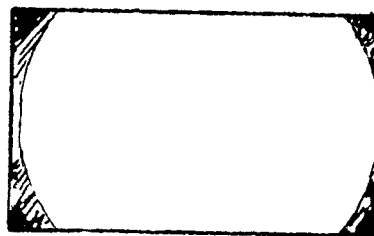

Fig 6
- 2) Close the dowser and install the projector lens and aperture plate. It is preferable to use the wide screen ("flat") lens and aperture. Back the bulb off (bulb adjust knob clockwise) until the corners become dark (Fig. 6). If necessary, re-adjust the horizontal and vertical to achieve uniform brightness across the illuminated part of the screen (ignoring the dark corners). If the lamphouse is properly aligned, all four dark corners should look identical. If not, refer to section "G" following.
- 1) Re-adjust the bulb to produce the dark corners illustrated in Fig. 6.